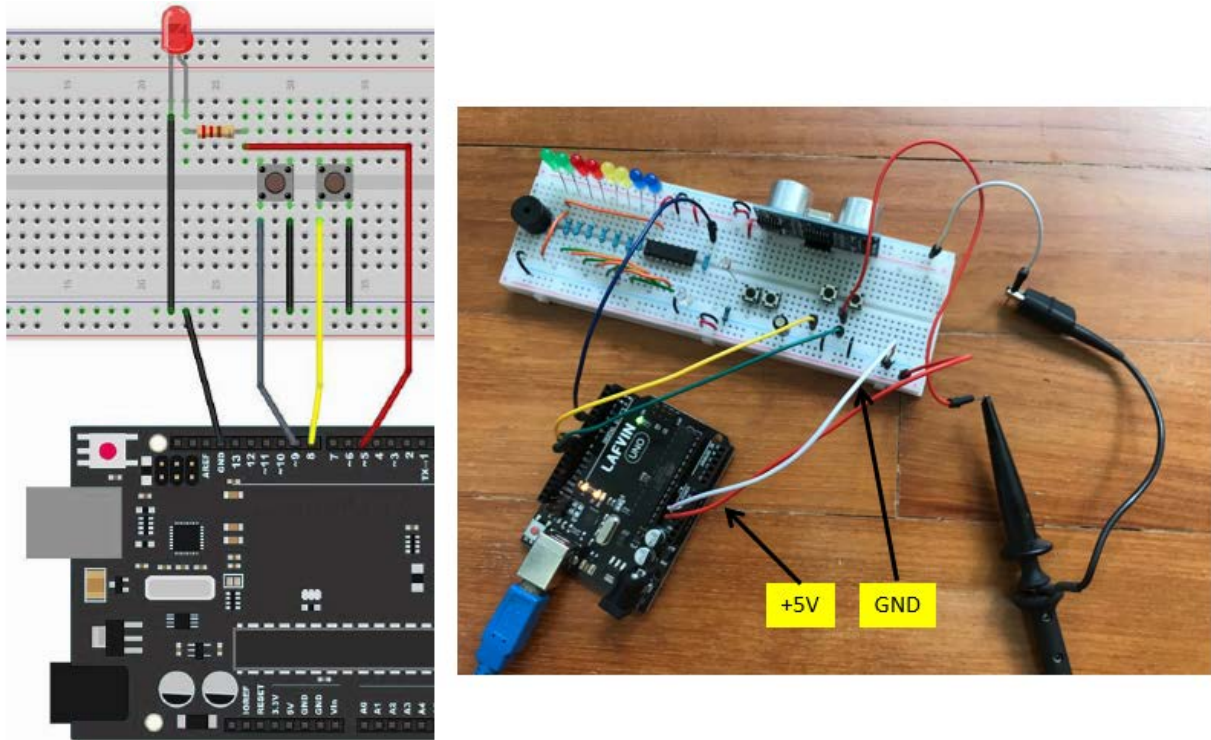

Fig 9: Hardware connections
- See Fig 9 for the connections. **Note that if there are no separate power supply to the breadboard, you need to draw the power from Arduino Board's +5V. The photo in Fig.9 shows the +5V and Ground headers of Arduino board connected to the breadboard (the red and white wire from Arduino board).**
- The photo in Fig.9 also shows how the oscilloscope probe needs to be connected to detect the voltage level at input pin of the processor.